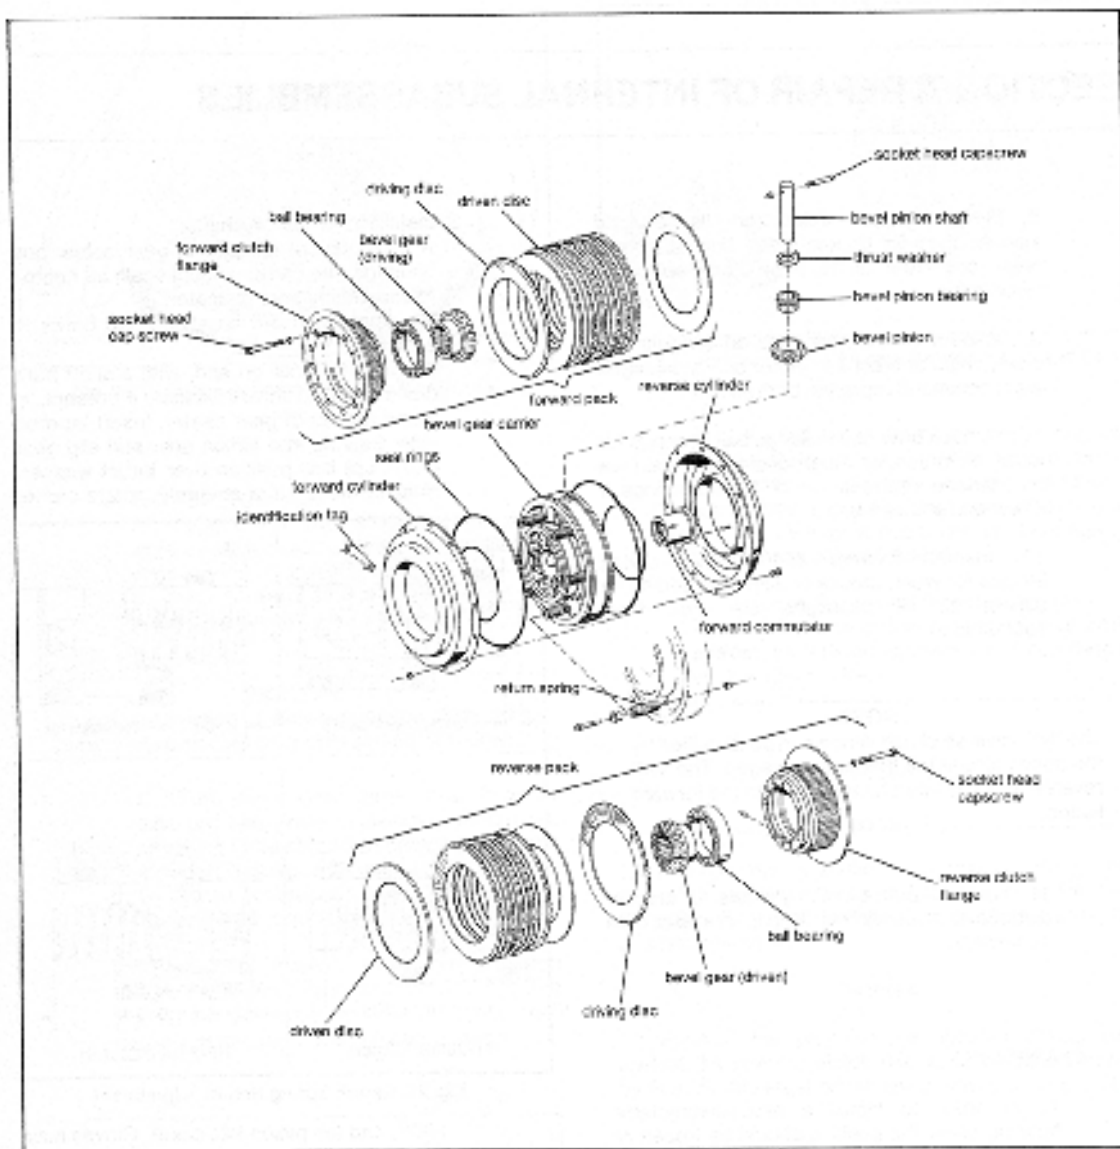

Fig. 24. Clutch and Gear Carrier Assembly ('HY' clutch shown)
7. Remove cap screws and locknuts securing pinion shafts in bevel gear carrier and remove bevel pinions with puller (see fig 24.)